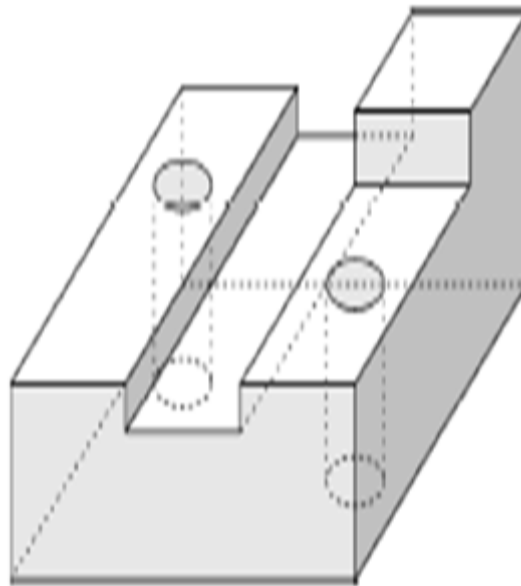

Figure QU2. Stepped-slotted block
- (c) Determine whether the solid model shown in Figure QU2 is topologically consistent. [13]